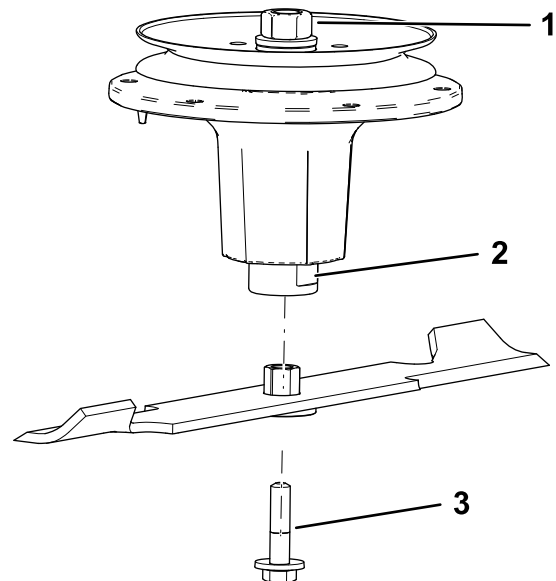

Figure 115
2. Install the bushing/blade assembly into the spindle shaft (Figure 115).